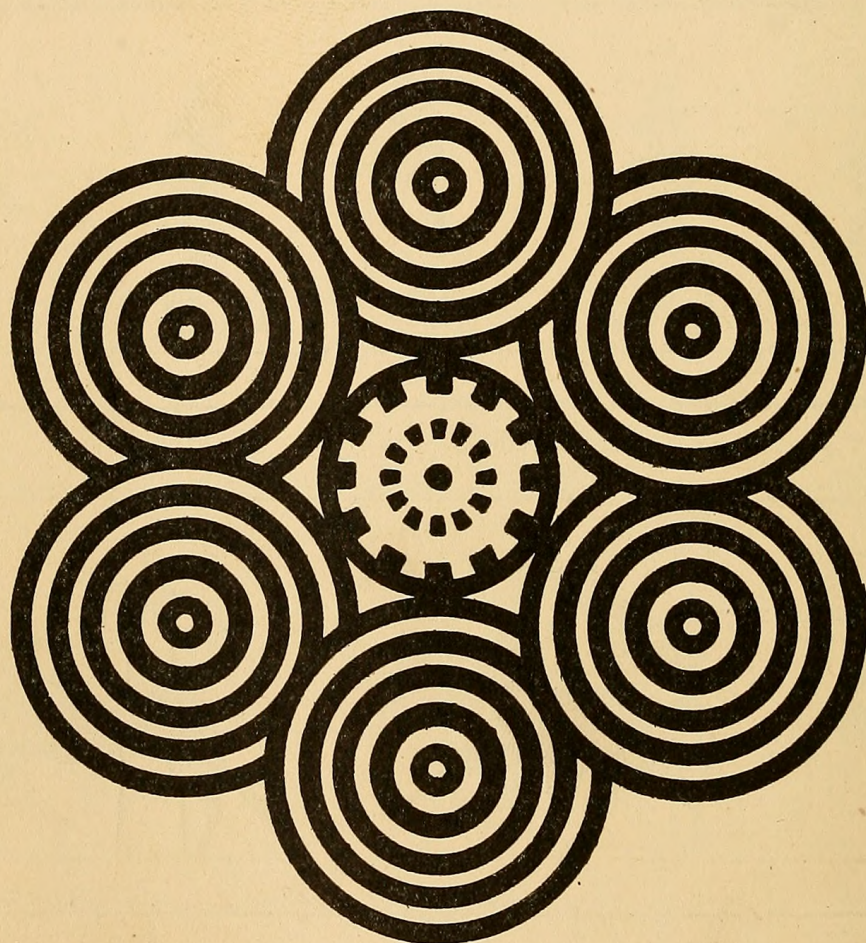

FIG. 358. — The Revolving Wheels. The inner wheel runs in the opposite direction from the outer wheels.
**The Revolving Wheels** shown in Fig. 358. By giving the book a circular motion and gazing at the center of